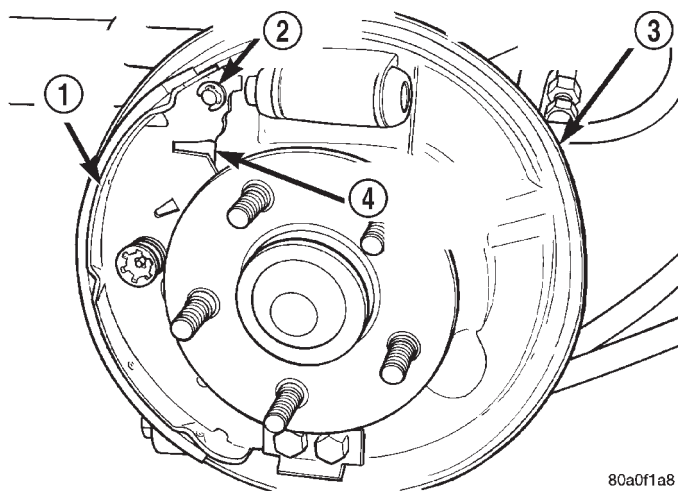

Fig. 114 Park Brake Actuating Lever Retaining Clip Installed
(5) Install the retaining clip attaching the park brake actuating lever to the trailing brake shoe (Fig. 114).